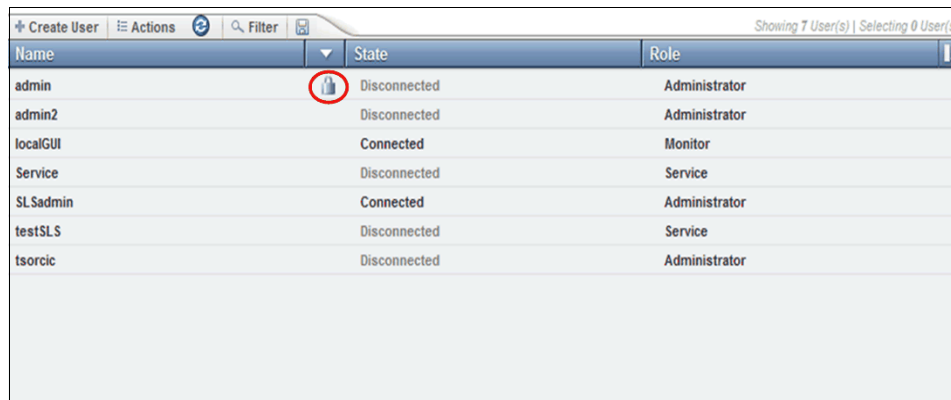

Figure 4-60 Locked user
- ▶ **Unlock:** If a user is locked out because the user exceeded the maximum number of unsuccessful login attempts, an administrator can unlock the user. The locked user shows a locked icon on the user list, as shown in Figure 4-60.